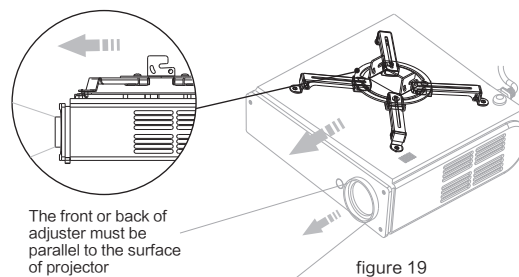

figure 19
5. The front or back of adjuster must be parallel to the surface of projector as figure 19.